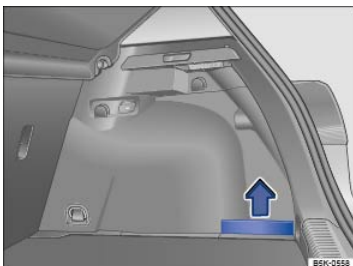

Fig. 150 In the luggage compartment: Side storage compartment with removable panel.
- *To remove:* Pull the side panel upward in the direction of the arrow ⇒ Fig. 150.